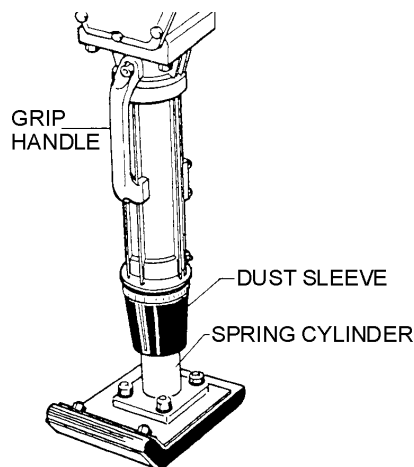

Figure 3. Grip Handle
1. When transporting the machine, carry it by the grip handle located on the body (Figure 3).